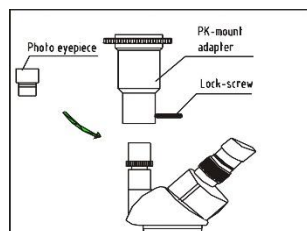

Fig. 8
- 2) Connect the PK-mount adapter with the photo eyepiece, and then tighten the lock-screw. (Fig.8)